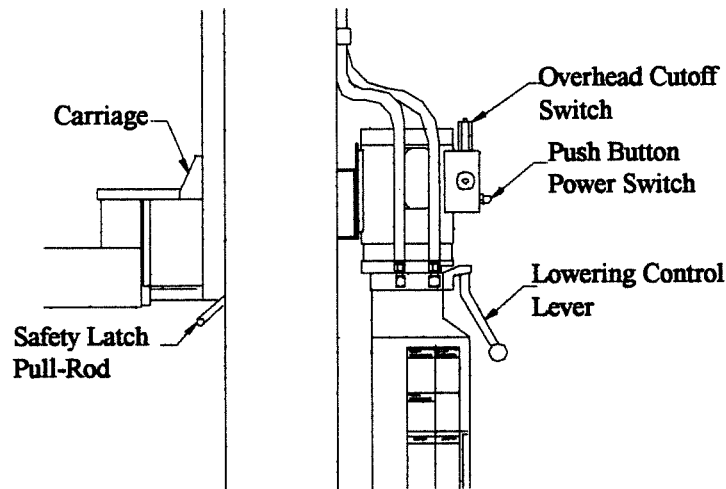

FIGURE 14
31. Lower the lift to the ground. To do this, first manually raise the carriages just enough to release the latches using the push button switch on the power unit. Pull out the latch pull rods under each carriage, then lower the lift by pushing the lowering control level on the power unit. KEEP FEET OUT FROM UNDER THE CARRIAGES. THEY CAN DROP VERY SUDDENLY. Figure 14 on following page.